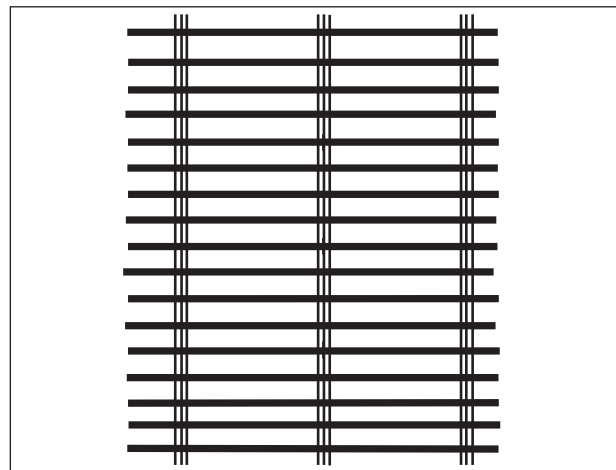

Figure 9.75 - End tension
- End tension (Figure 9.75) - This wire is tensioned end to end instead of side to side. Generally available in 6 inch or 12 inch long slots.